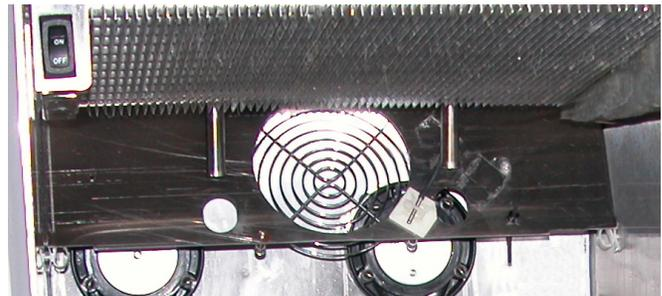

Figure 4-7 Cab Fan Shroud
8. Remove the fan shroud by tilting forward and pulling down (Refer to Figure 4-7).